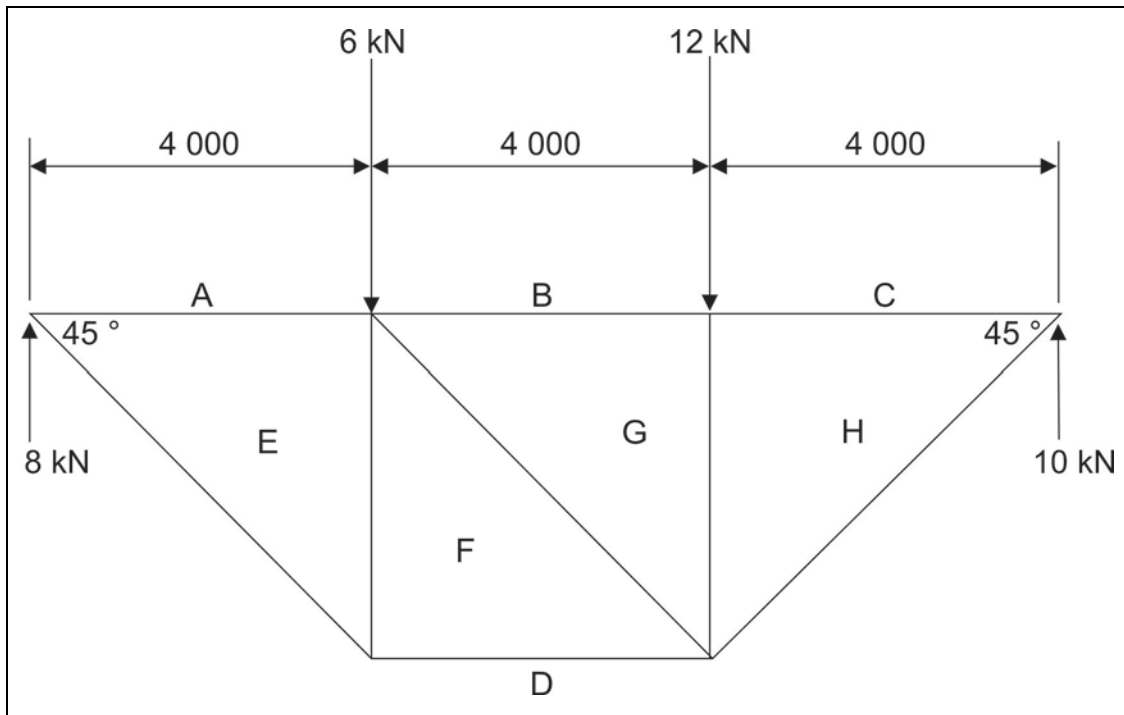

FIGURE 5.3
5.3 FIGURE 5.3 below shows the space diagram of a framework.